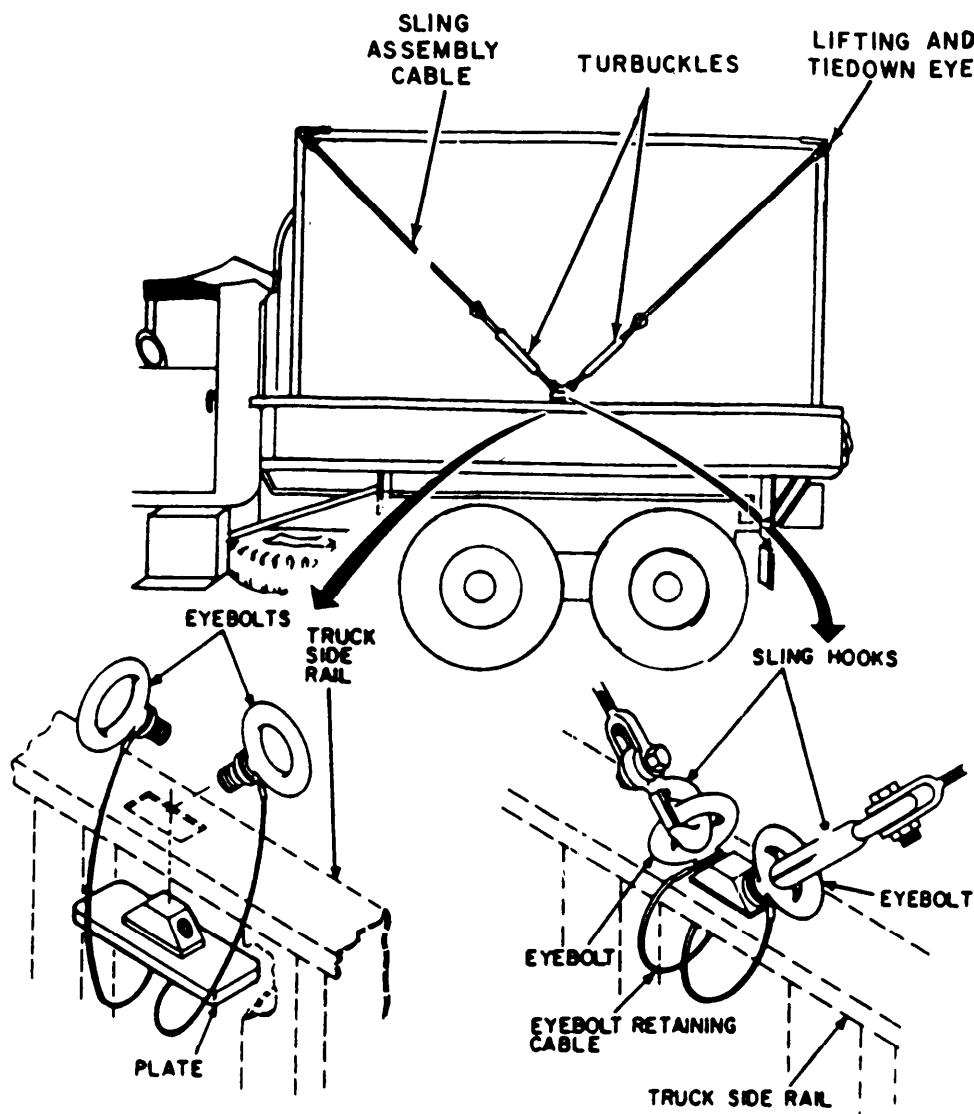

Figure 3-2. Securing Shelter on Truck.
- (5) With one person at each rope, guide shelter into position so it is aligned above truck bed, and maintain that position while lowering shelter into place on truck bed.
- (6) Remove lifting ring from lifting hook and separate lifting ring from sling hooks. Remove sling hooks from lifting eyes and remove ropes from rear towing eyes.
d. Securing Shelter on 2 1/2-Ton or 5-Ton Truck. (Figure 3-2)
- (1) Install plate and eye bolt assemblies (part of sling assembly) on cargo bed side-rails of truck as shown in Figure 3-2.
- (2) Hook ends of four sling assemblies to tiedown eyes at each top corner of shelter, using hooks at furthest end of cables from turnbuckles.
- (3) Hook sling hooks at opposite end of cables to appropriate eye bolts on truck. Make sure sling hooks point away from shelter.